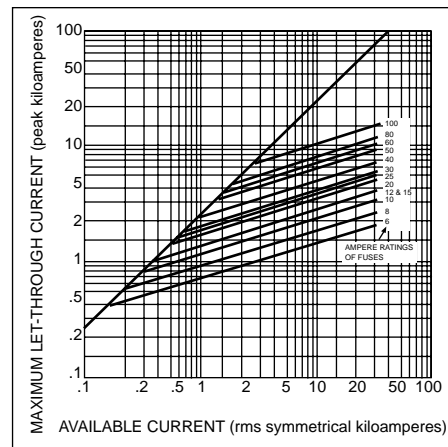

Figure 11.
** See Figure 11 for dimensional drawing.